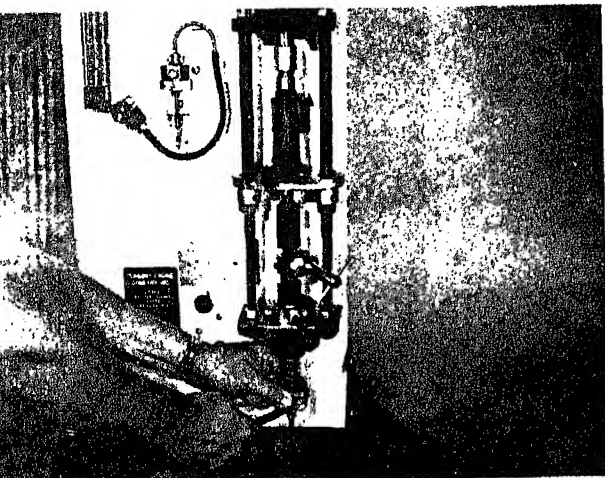

Fig. 6-1-33. Adjusting knurled hub for proper feeler gauge clearance
4. Adjust knurled knob to obtain proper clearance with feeler gauge between knob and lock nuts. See Fig. 6-1-33.